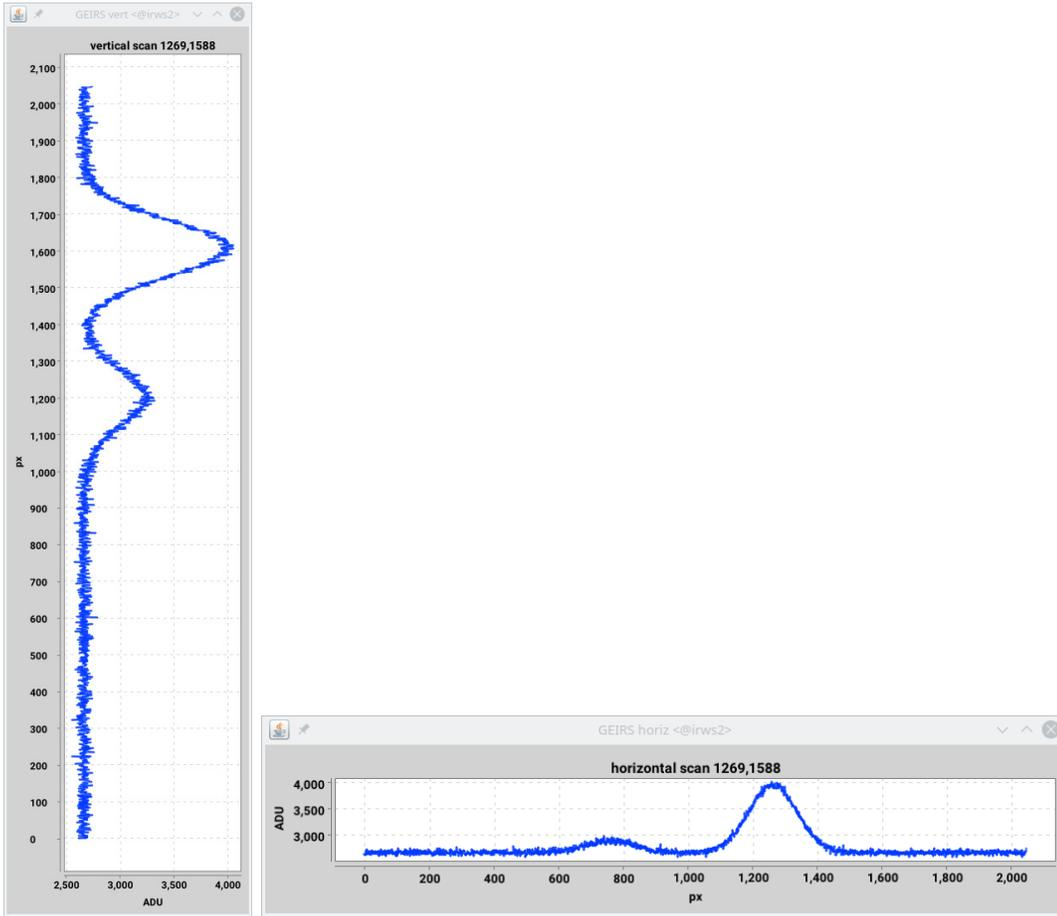

Figure 21: Examples of cut plots activated with the `horiz.` or `vert.` buttons of Fig. 20.
4.3.4.12 Horizontal/vertical Slice. In the next row the **horiz.** and **vert.** buttons open plots that show the pixel values along two straight lines that cut horizontally and/or vertically through the image at the “hot pixel” marked by the center of the cross (Figure 21).³⁸ The plots are updated if new images arrive or if the hot pixel is moved. The titles of the plots indicate the FITS x and y coordinates of the common crossing of the two cuts. The buttons are green while the plots are active. The two graphs should be closed by clicking again on the buttons; their color will switch back to gray if de-activated.